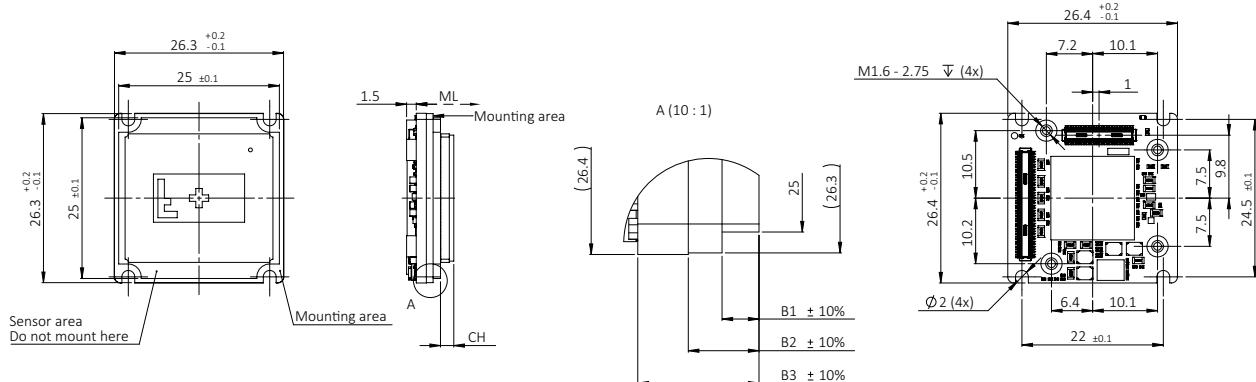

Figure 69: Bare Board (Alvium Flex) dimensions
Dimensions that are common between different models are shown in Figure 69. Model specific dimensions are listed in Table 82. **Mechanical length** (ML) defines the mechanical distance from the mounting area to the lens mount front flange, without optical filter. **Components height** (CH) relates to the electronic components with maximum height, in some cases the sensor.